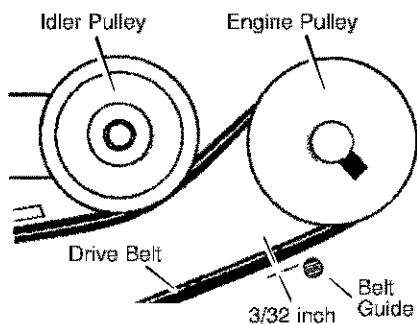

Figure 11
8. Set the belt guide to  $3/32$ " clearance as shown in Figure 11.